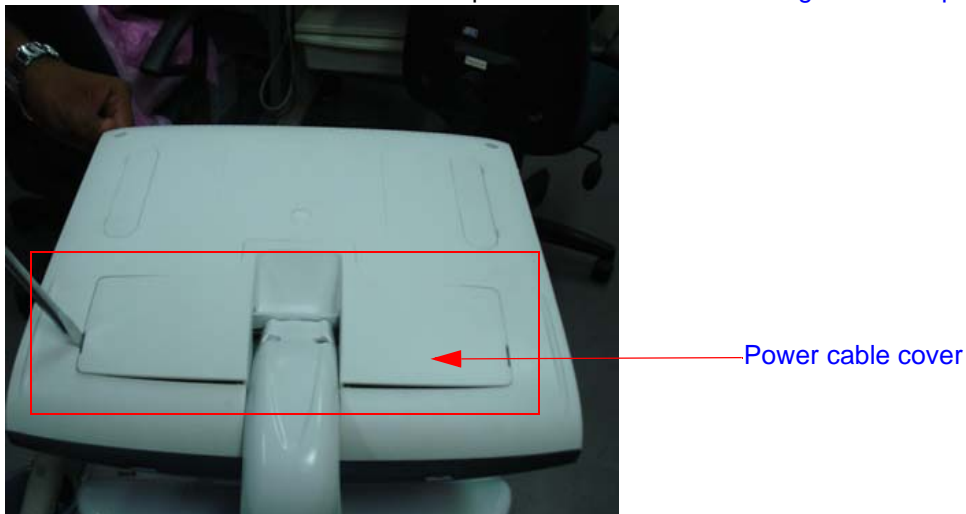

Figure 8-2 Power cable cover
- 4) Bend the LCD monitor as shown below Figure 8-2 on page 8-5
- 5) Use minus screw driver and remove the power cable cover. Refer Figure 8-2 on page 8-5